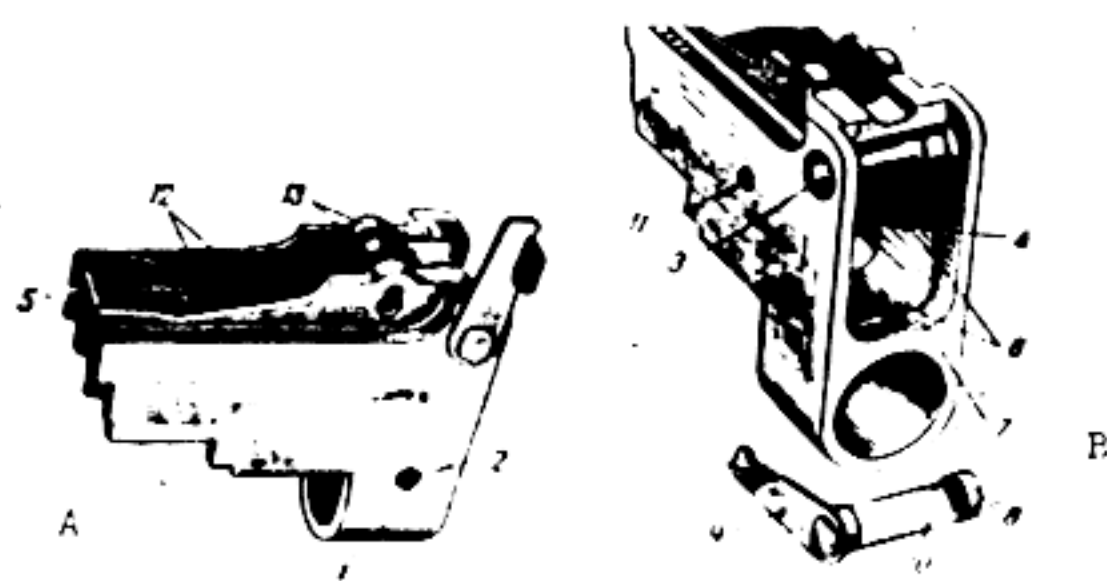

Figure 19. Rear sight base (1-21).
The sight base (fig. 19) has a lug (1), by means of which the sight is mounted on the barrel; hole (2) for the pin which holds the base on the barrel; hole (3) for the gas tube lock; hole (4) for passing the operating rod; semicircular groove (5) for holding the receiver cover plate; notch (6) and recess (7) for holding the gas tube.